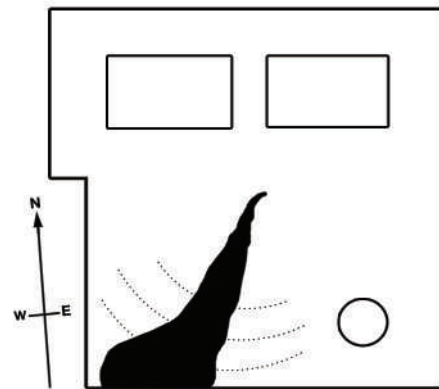

Figure 5.
- Scan the area in an ever widening pattern, until the source of the leak is located (Fig.5)